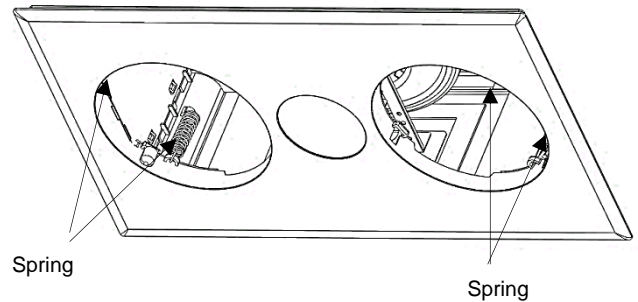

Fig.4
- 6) Hold the fascia against the body of the unit and the ceiling then reattach the securing spring clips to hold the fascia back in place. (Fig.4).